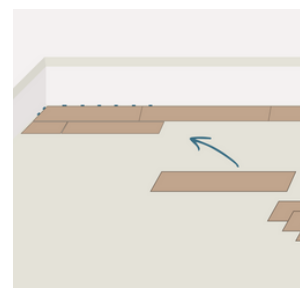

Fig. 3
- Maintain a staggered joint pattern, ensuring 6" or more between the ends of adjacent planks. **(Fig. 3)**